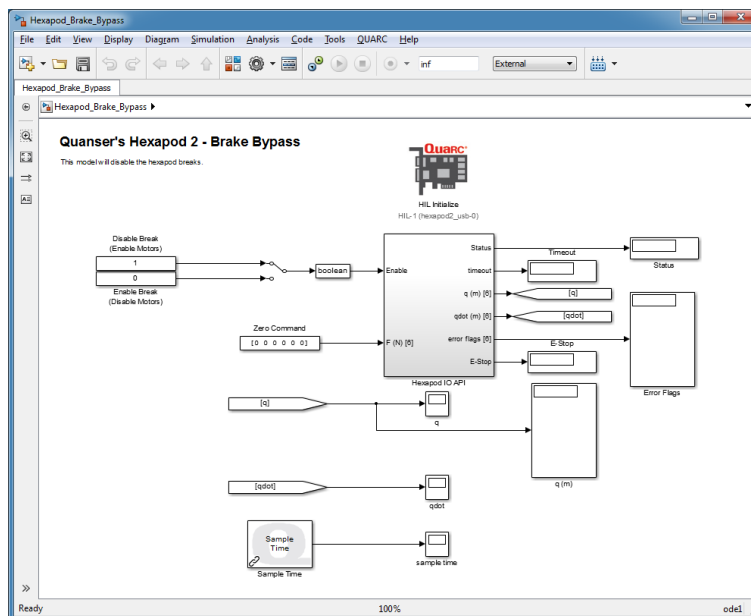

Figure 2.7: Simulink model used to disengage brakes on the Hexapod using QUARC
The Hexapod_Brake_Bypass.mdl model, shown in Figure 2.7 allows the joints to be moved manually. The amplifier drives are enabled and the brake system is disabled when the Digital Output Channels #12 and #13 are set to 0 and 1, respectively. The amplifiers are disabled when the DO #12 and #13 are both set to 1. The joints can be moved manually as long as the amplifiers are enabled (and no internal amplifier faults, such as over-current or over-temperature are triggered).
2. Open the Simulink model called Hexapod_Brake_Bypass.mdl, shown in Figure 2.7.